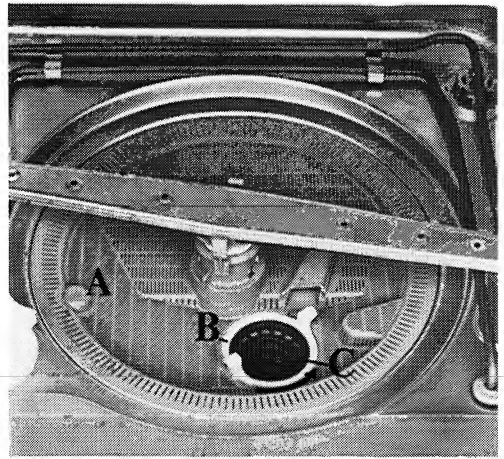

fig. 18
The filter assembly consists of a large circular fine-mesh filter (A) and two small cone-shaped filters (B-C), fitting one within the other, both being housed in the large filter (fig. 18).
These two concentric filters can be removed by slightly turning the outer filter B anticlockwise until it disengages from its seat (fig. 18).